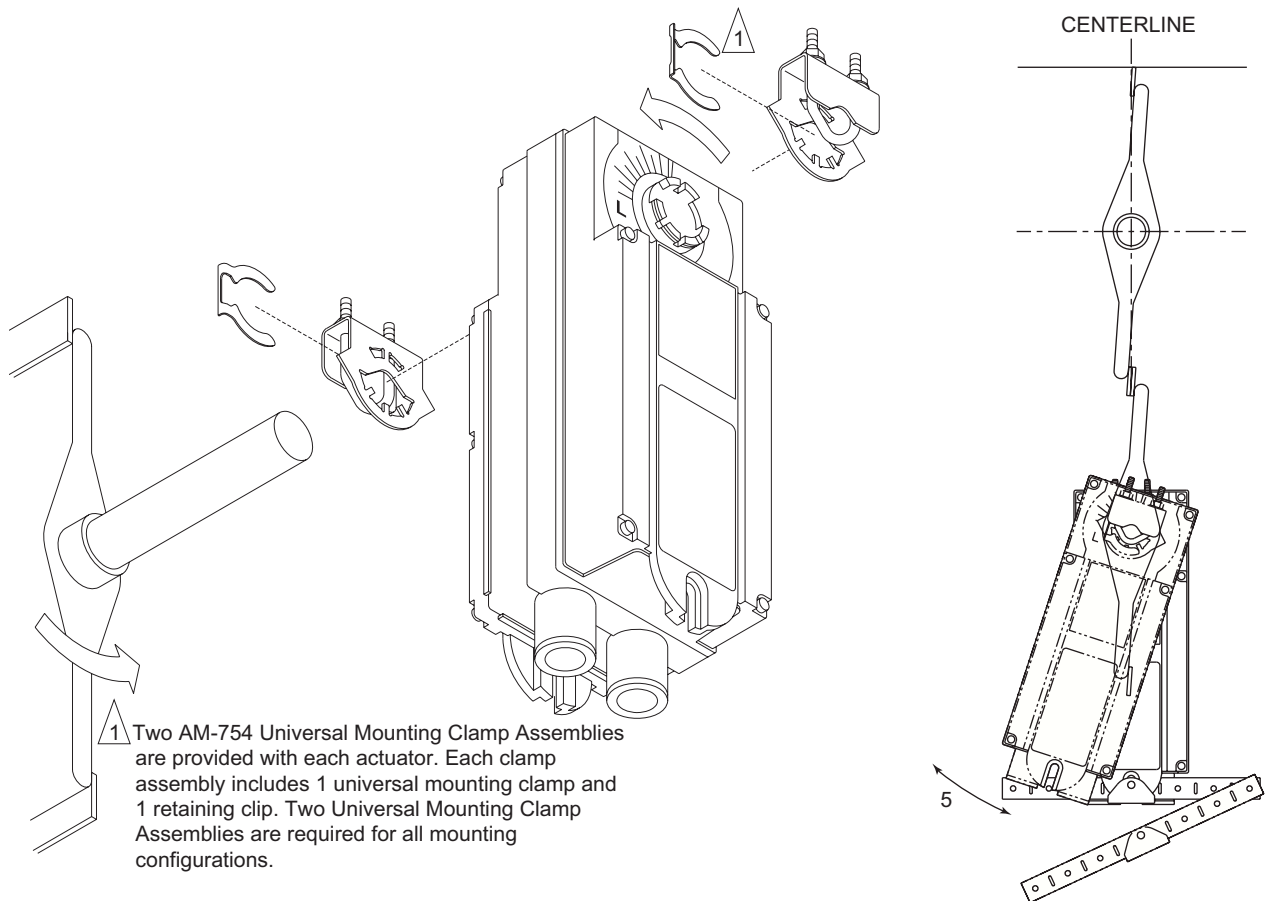

Figure-7 Long Damper Shaft Installation and Actuator Parts Identification.
- If the damper shaft rotates counterclockwise to the closed position, mount the actuator with the side marked "L" facing the installer. See Figure-7.